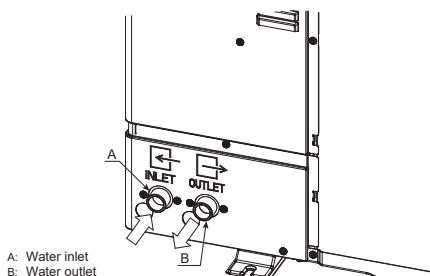

Fig. 6-1
6.1. Water piping connection (Fig. 6-1)
- Inlet and outlet pipes position is shown on the Fig. 6-1.